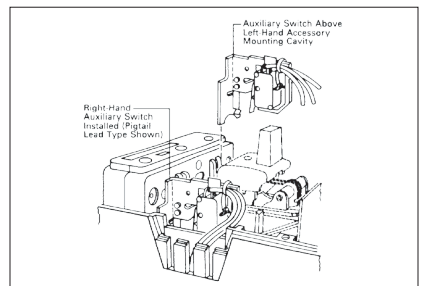

Fig. 2-3. Auxiliary Switch Installation Positions
- 2-5. Insert the auxiliary switch as described in the following steps (Fig. 2-3):